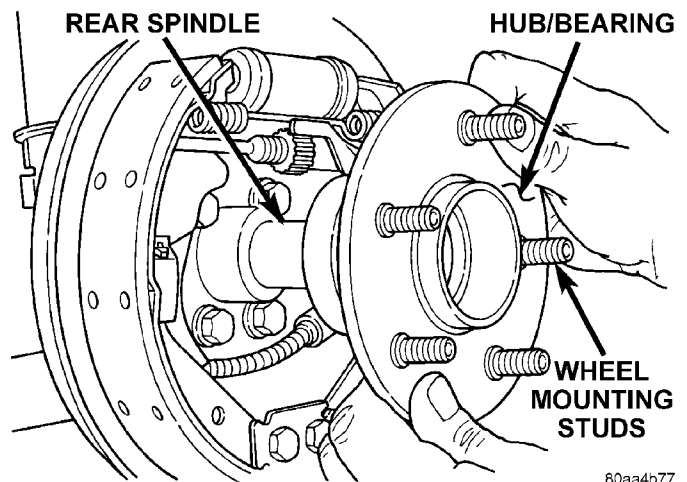

Fig. 145 Hub/Bearing Removal From Spindle (Drum Brakes Shown)
(17) Remove the hub/bearing (Fig. 145) from the rear spindle.